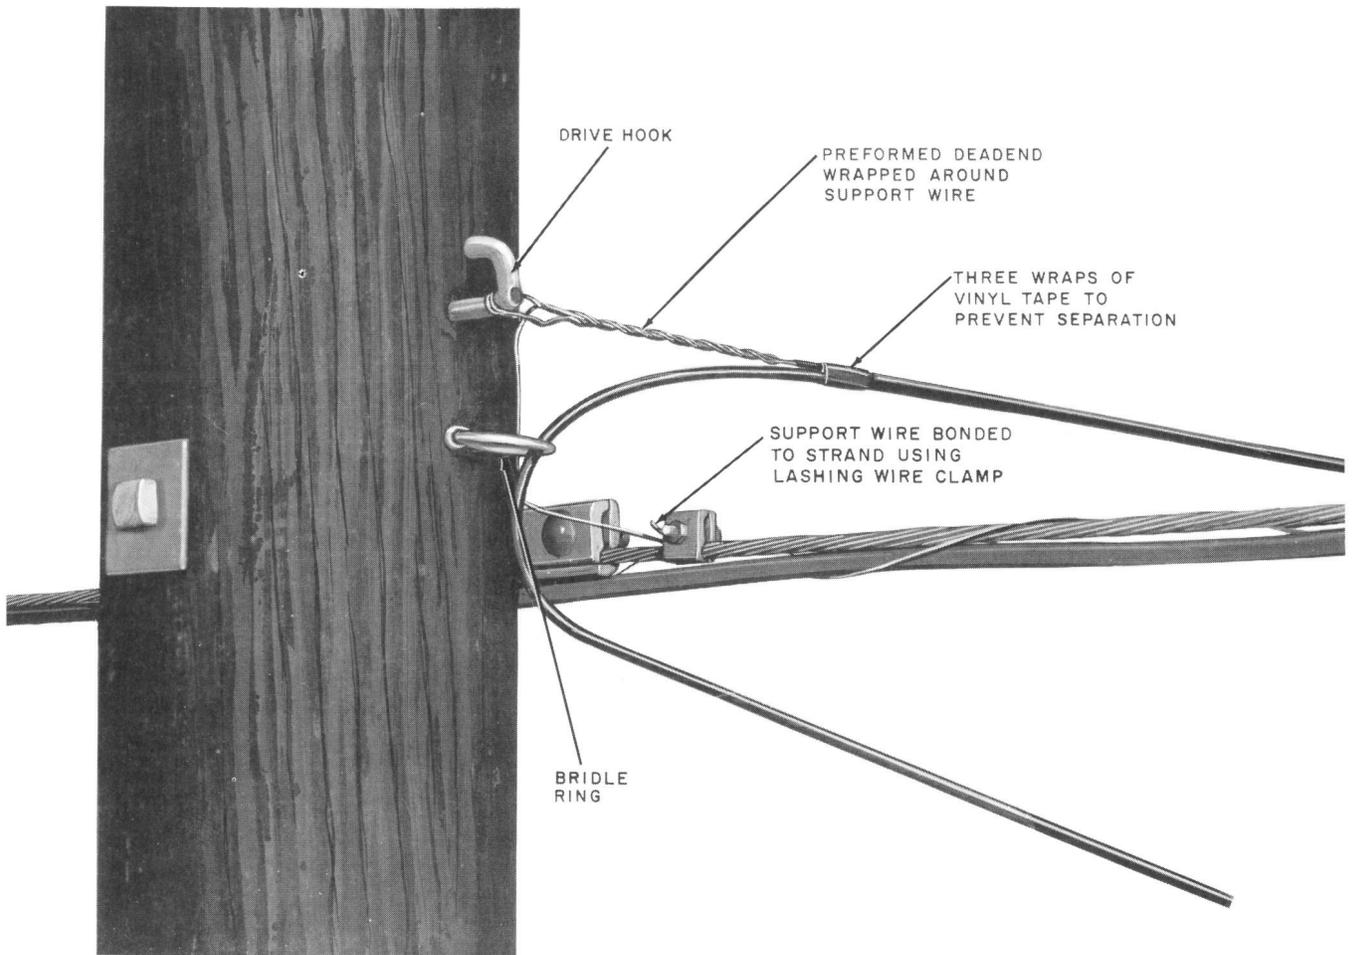

Fig. 10—F Coaxial Wire Attached to Pole
5.03 Attach the support wire to the drive hook with a Preformed deadend or a Reliable Electric wire vise as shown in Fig. 10.
5.05 Route the support wire through the bridle ring and bond to the strand using a D lashing wire clamp as shown in Fig. 10.